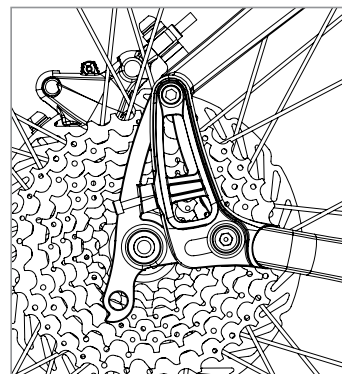

Figure 6
- Push the swing plates all the way forward (Fig 6)